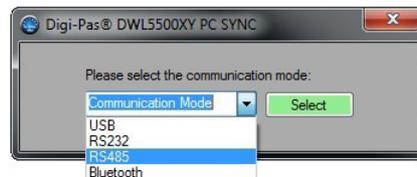

Figure 22. Select mode from the drop down menu
1. Assuming steps stated in 3.2 Configuration of Sensor Module(s) with Control Box and 4.1 Installation of the DWL5x000XY PC Sync Software have been done in this stage. Open PC SYNC software and select the desired mode from the drop down menu as shown in Figure 22. In this example, RS485 is selected.